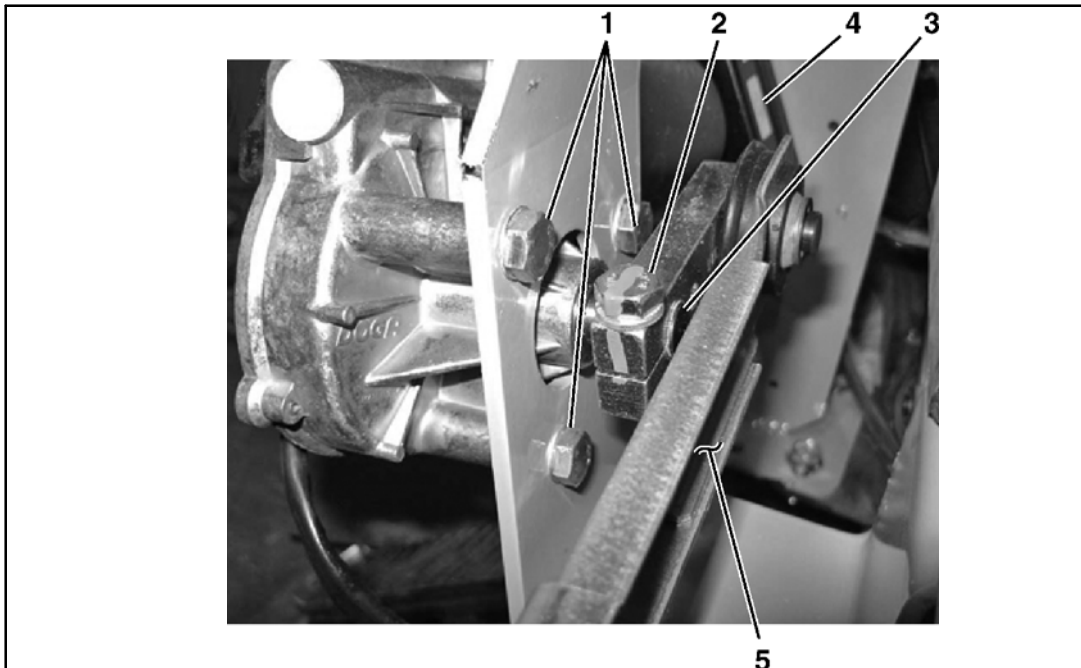

Figure 6. Rear View of Wiper Motor Installation
18. Locate the three wiper motor mounting bolts, Figure 6, item #1, securing the wiper motor to the bracket.
19. Loosen the wiper motor crank nut, Figure 6, item #2.
20. Carefully push the linkage off the wiper motor shaft, Figure 6, item #3, ensuring no damage to the splines.
21. Using a 1/2" wrench or socket, remove and retain the three wiper motor mounting bolts, Figure 6, item #1. Remove and discard the wiper motor.
28. Install the new wiper motor, p/n 03-34-1193, using the three wiper motor mounting bolts, Figure 6, item #1, removed in Step 21. Secure the wiper motor to the bracket. Torque the motor mounting bolts to 15 to 18 ft.-lb. Re-connect the wiper motor harness. Re-connect the the harnesses to the VIP controller, and , if applicable, the steer angle sensor (SAS) connector.
32. Align the wiper motor linkage, Figure 6, item #4, with the main wiper linkage, Figure 6, item #5, and mount it on the motor shaft. Torque the wiper motor crank nut, Figure 6, item #2, to 16 to 20 ft–lb. Apply torque seal from the face of the capscrew to the face of the wiper motor crank.